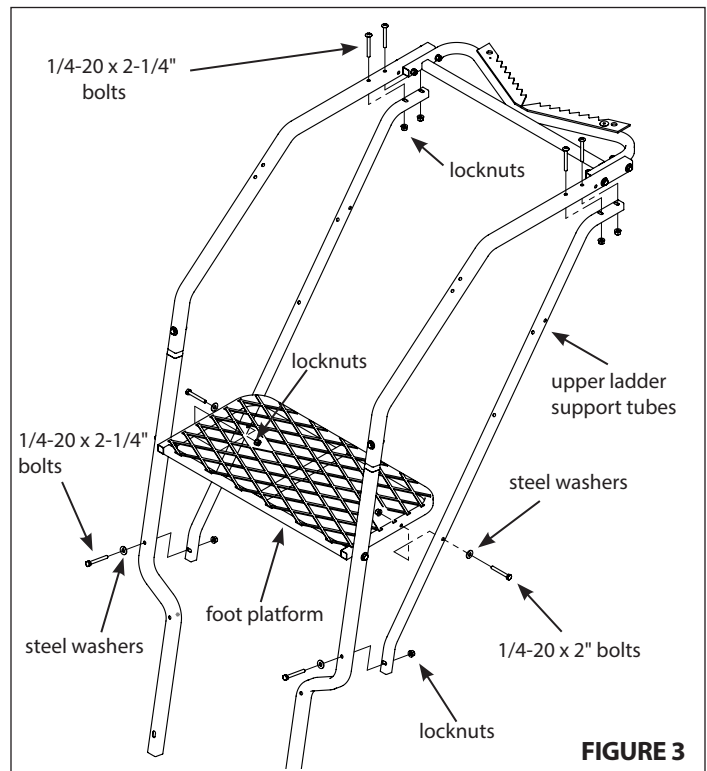

**FIGURE 1**
1. Attach the tree blade (10373) to the main ladder side rails (10346) using (4) provided 1/4-20 x 2-1/4" bolts, locknuts and steel washers. **SEE FIGURE 1. DO NOT tighten all nut and bolt assemblies completely!**
- a. Position (2) people at the platform end of the ladder, lift the platform end, and continue uprighting by walking toward bottom end of ladder and moving hands along ladder legs. **Stand ladder up against chosen straight tree on dry, level ground.** Use caution when ladder comes over center against tree.
- e. Wrap the previously attached 15' tie-off ropes hanging down from platform, around the back side of tree in opposite directions of each other. Pull the ropes snug and tie them to the ladder at the stabilizer bar height location. This ground level ladder-to-tree attachment will prevent the ladder from pulling away from the tree while ascending to top for final ratchet strap attachment. The same holds true when ladder removal is necessary. **SEE FIGURE 1.**